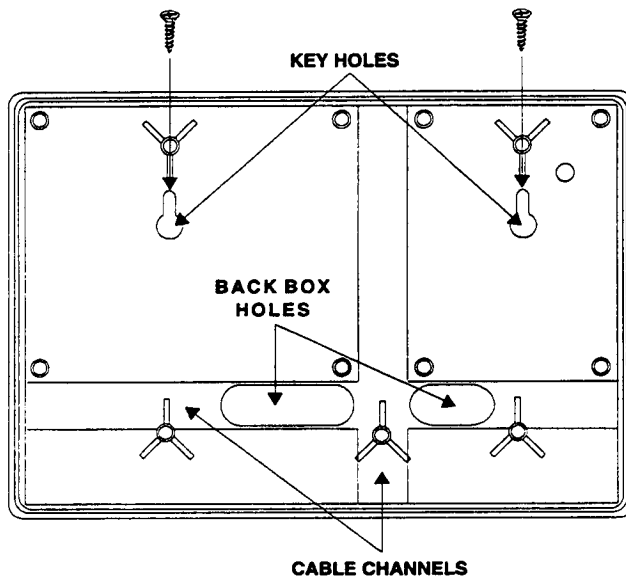

Figure 2.4 Back Box and Key Holes
- Place the back box on the surface where you intend to mount it and mark the wall through the key holes. (See Figure 2.4.)
- Feed the prerun wires through one of the back box holes. (See Figure 2.4.)
- Mount the back box to the wall, using the appropriate fasteners. (See Figure 2.4.)